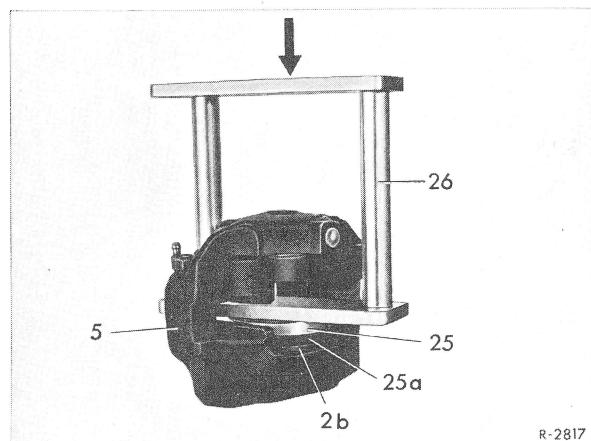

Fig. 16
13 Place pressure plate (25) on dust cap (2b) and force dust cap on flange of caliper at approx. 300 Nm (30 kpm) pressure using installation tool (26) as well as a hand press (Fig. 16).